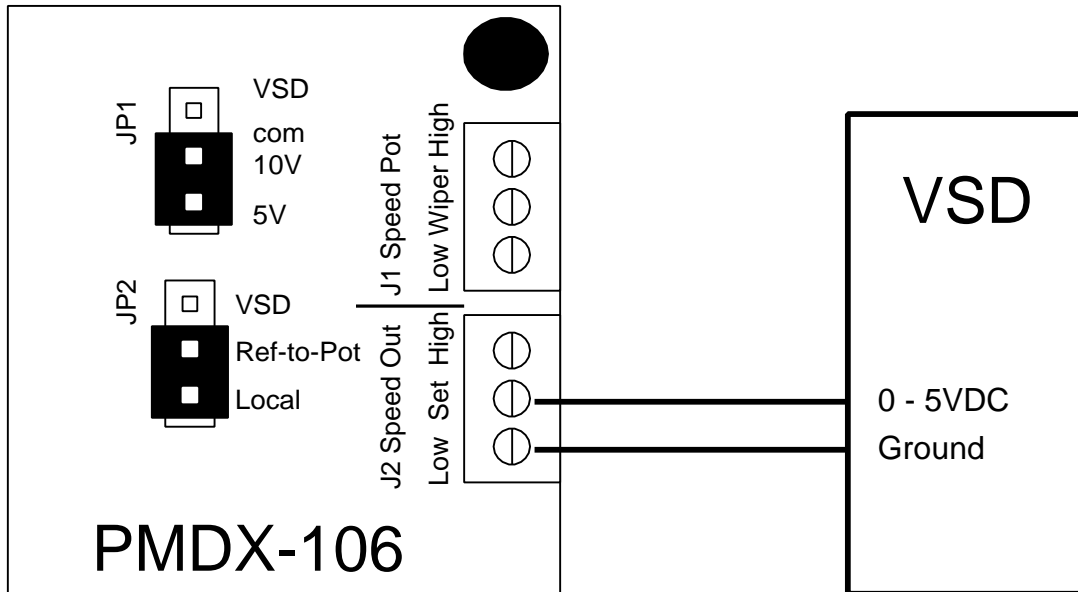

Figure 5 - Example 0V to 5V VSD Connections & Jumper Settings
- 0 to +5V The VSD expects an analog voltage between 0 and +5V, where +5V is full speed. In this case, the PMDX-106 provides the +5V reference for its analog output circuit. See Figure 5 for an example of the jumper settings and VSD connections for this configuration.